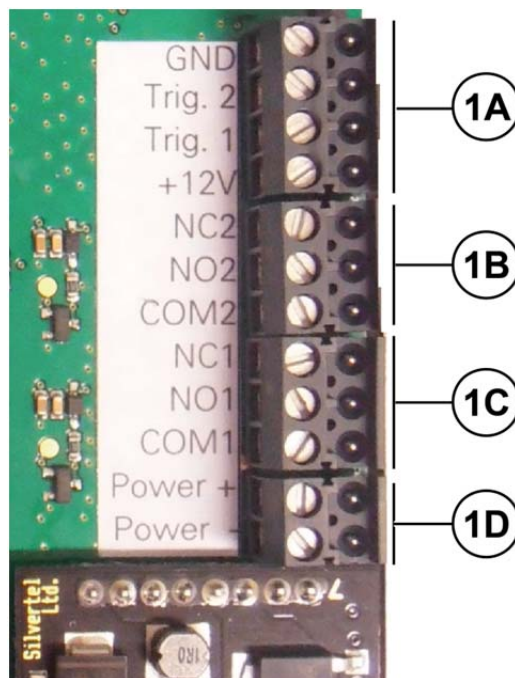

Fig. 6: Connection terminal
- 1 connection terminal (Fig. 6)
- Connect the lines according to the labelling (Fig. 6).